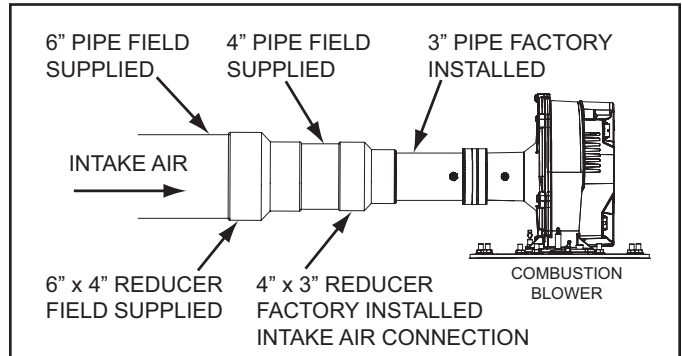

Figure 18. Air Intake Installation
- If installing 6" intake air pipe transition to 4" pipe at the intake air connection on the water heater as shown in Figure 18. The field installed 4" pipe between the intake air connection and the 6" x 4" reducer coupling should be 18 inches (45 cm) or less in length.